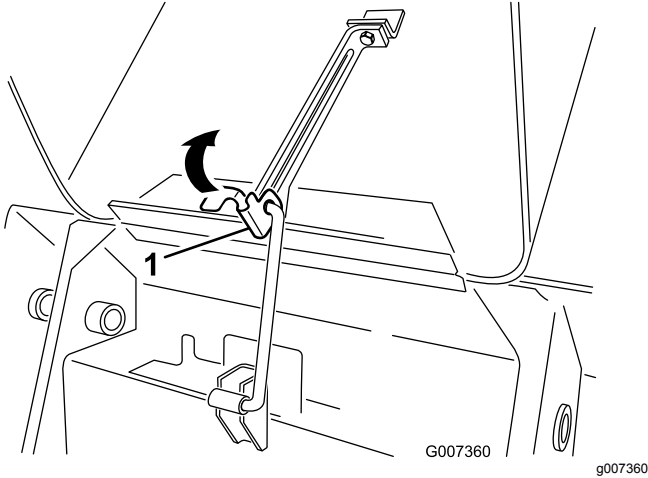

Figure 25
1. Lift up on the tab securing the prop rod (Figure 25)